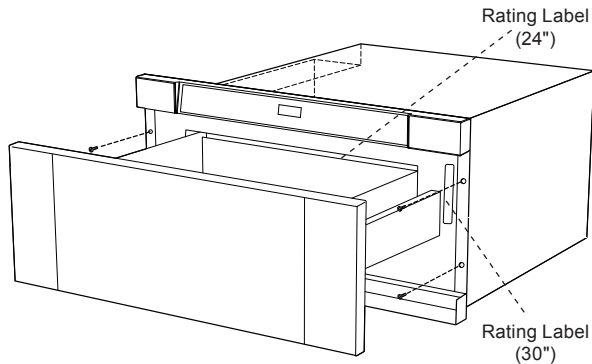

Figure 9A
4. Open the drawer. Using the 4 holes on the drawer as a template, predrill the cabinet using a $\frac{1}{16}$ " drill bit. See **Figure 9A**.
The name plate, including model and serial number, is located on the faceplate behind the microwave drawer front. See **Figure 9A**.
The name plate includes the model and serial number. Open the microwave drawer fully. The label is located slightly beyond the back wall of the microwave cavity facing up from the flat surface. See **Figure 9A**.